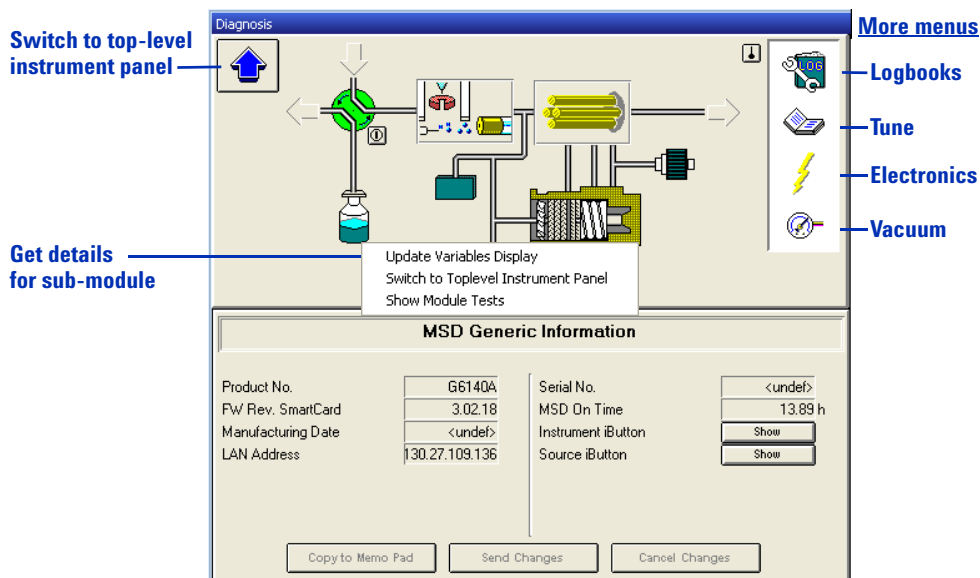

Figure 61 Instrument panel – module details for the MS.
- **Show Module Details** – Display a detailed schematic of the module, as shown in Figure 61 on page 112.
As you move your mouse across the diagram shown in Figure 61, whenever the cursor changes from a pointer to a hand, you can click to display a menu that gives access to details for a sub-module. For example, you can click the icon for the turbomolecular pump to view vacuum readings, or the icon for the quadrupole to view its temperature. You can also click the icons in the white area on the right to display their menus.
- The **Logbooks** icon, shown in Figure 61 on page 112 (click the icon and select **Update Variables Display**)
You access the maintenance logbook via the **Logbooks** icon, shown in Figure 61 on page 112. (Click the icon and select **Maintenance Logbook Entry**.) Then you manually enter the information via ChemStation software.